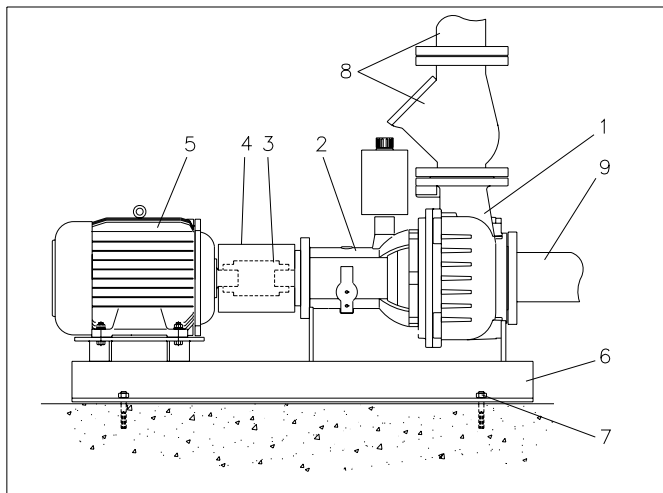

Fig. 7.1
See fig. 7.1
- fixation of the base plate to the floor, see fig. 7.1 pos. 7.
Remove the protection hood, (see fig. 7.1 pos 4).
1. radial deflection (R)
2. angular deflection (A)